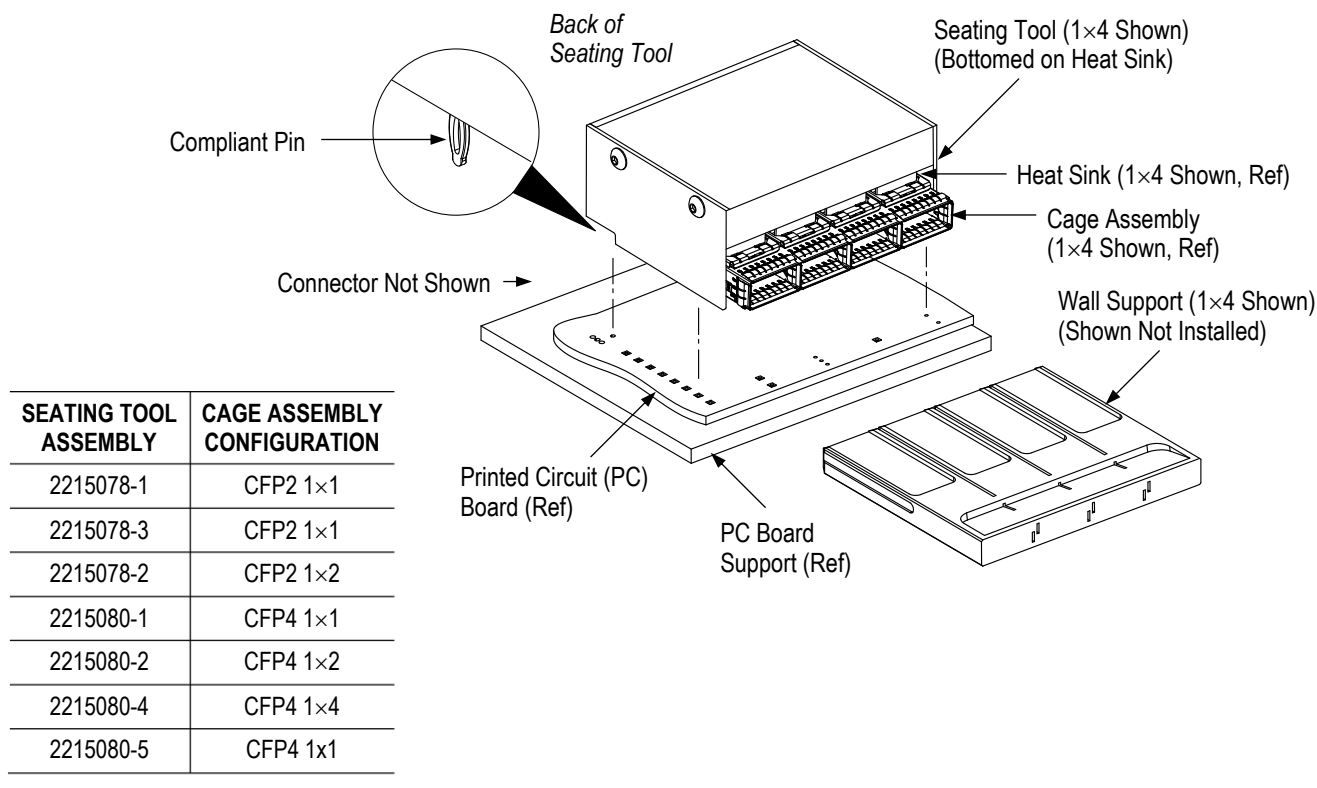

Figure 1
The cage assembly seating tool assemblies listed in Figure 1 are used to seat the cage assemblies listed in Figure 1 onto the pc board. The heat sink must be installed onto the cage assembly before seating. The cage assembly contains compliant pins to allow solderless pc board installation. The seating tool assembly is not designed to seat the connector.
4. Slide the wall support into the ports of the cage assembly until it is secure (see Figure 1).